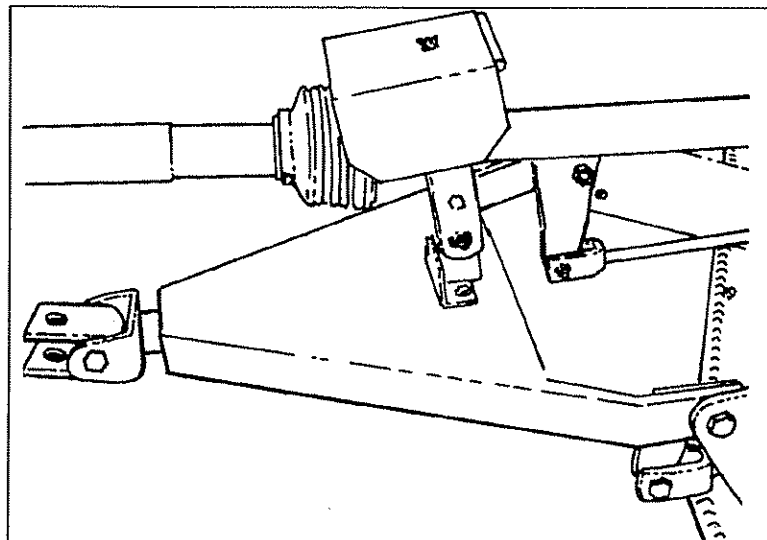

FIGURE 8
3. Assemble 1-3/8-21 end of implement input driveline onto jackshaft stub shaft. Make certain yoke is fully seated and that slide seated in place. See **Figure 8**.
4. Attach shield to top of jackshaft stand with wing nut. Tighten securely. See **Figure 8**.